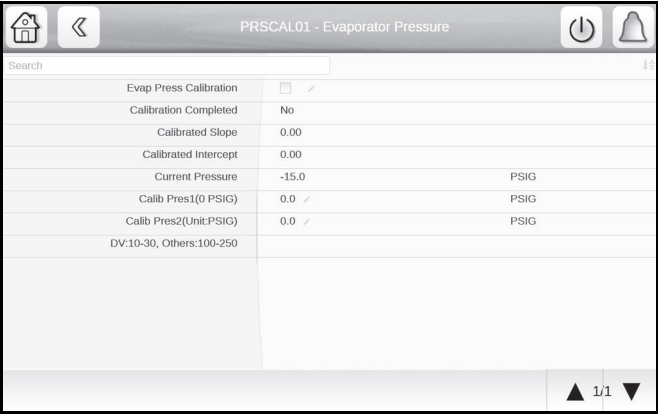

Fig. 34 — Evap Pressure Sensor Screen
- Each transducer is supplied with 5 vdc from the IOB. Calibration is done by selecting the appropriate Pressure Sensor option on the Pressure Sensor Calib screen. The screen for the selected option is displayed. Figure 34 shows the Evap Pressure Sensor screen (PRSCAL01 as an example).